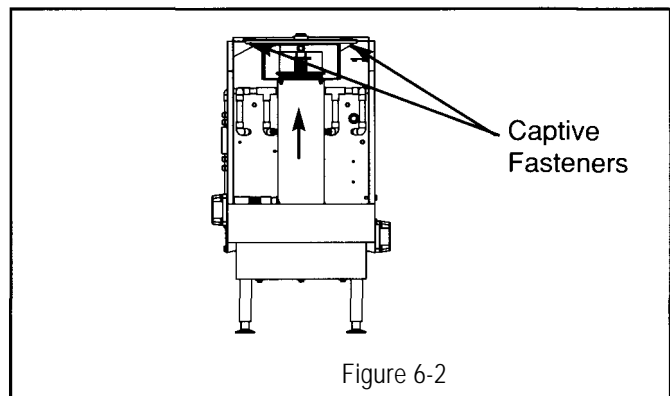

Figure 6-2
3. Remove auger-bearing bracket by turning the two captive fasteners counter clockwise and then pull bracket upward (see figure 6-2), replace if necessary.